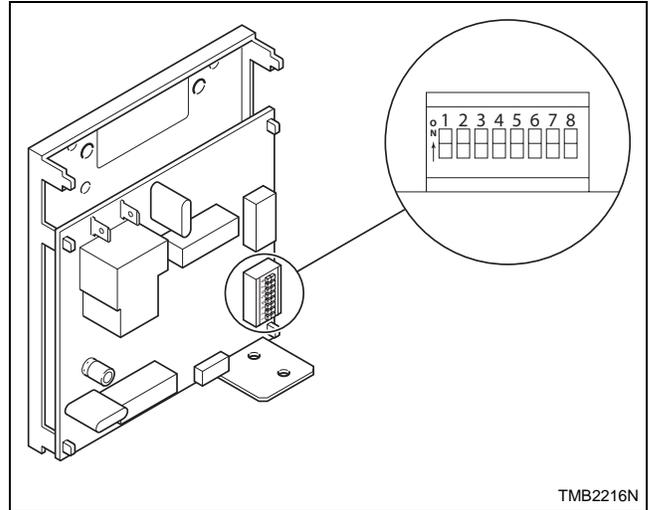

Figure 4
2. Write down machine control dip switch settings, then set them all to the off position. Refer to *Figure 4*.